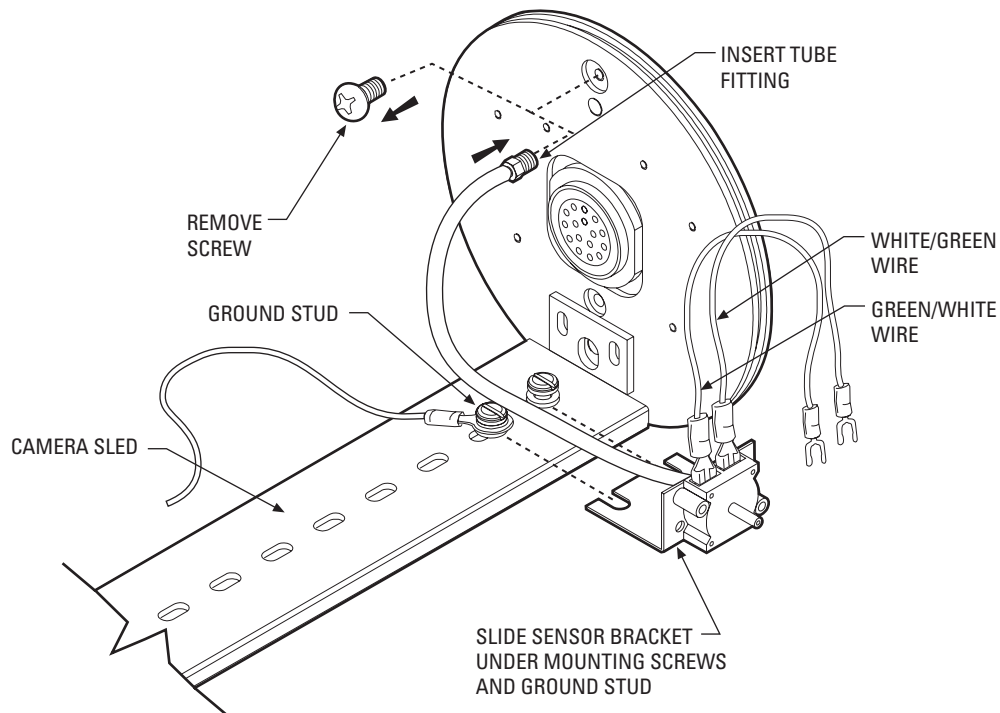

**Figure 1.** EH8100 Series Enclosure - Rear View
5. Remove the cap from the Schraeder valve (refer to Figure 1).
7. Remove the rear plate of the enclosure (refer to Figure 1) and do the following:
3. Remove the Schraeder valve cap (refer to Figure 1). Affix the self-holding tire chuck to the Schraeder valve.